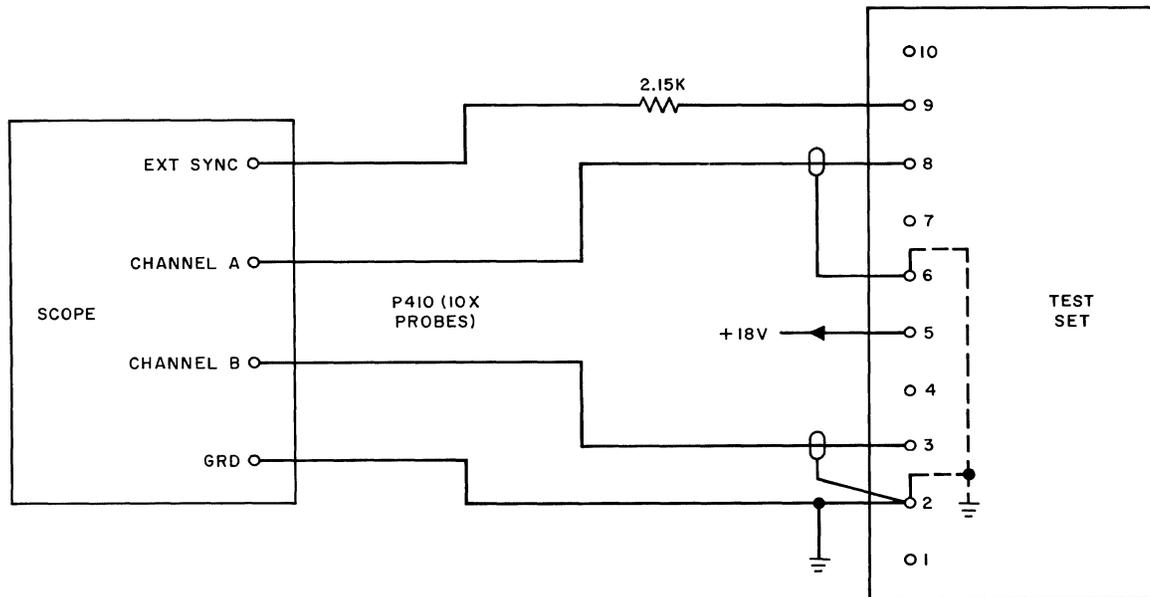

Fig. 31 — Monopulser Card Test
- (1) Set up the test circuit as shown in Fig. 31. The scope EXT SYNC TRIGGER selector should be set to the (+) positive position.
- (2) Make the following settings on the test set:
- (1) Set the NORMAL-DEGRADED selector to DEGRADED.
- (2) Adjust potentiometer P1 until the amplitude of the input test pulse on J8 is  $3.0$  ( $\pm 0.2$ ) volts on the oscilloscope. The input test pulse should appear as in Fig. 31.